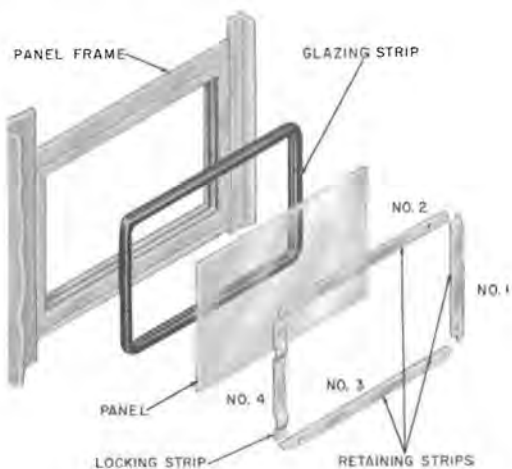

Fig. 24—Assembly of Side or Rear Panels
4.19 Booth panels and signs are held in place by four interlocking retaining strips inserted in sequence as shown in Fig. 24. The No. 4 strip is rippled and is held in place by interface friction. Refer to Table E for retaining strips.
- (7) Replace retaining strips in sequence as shown in Fig. 24.